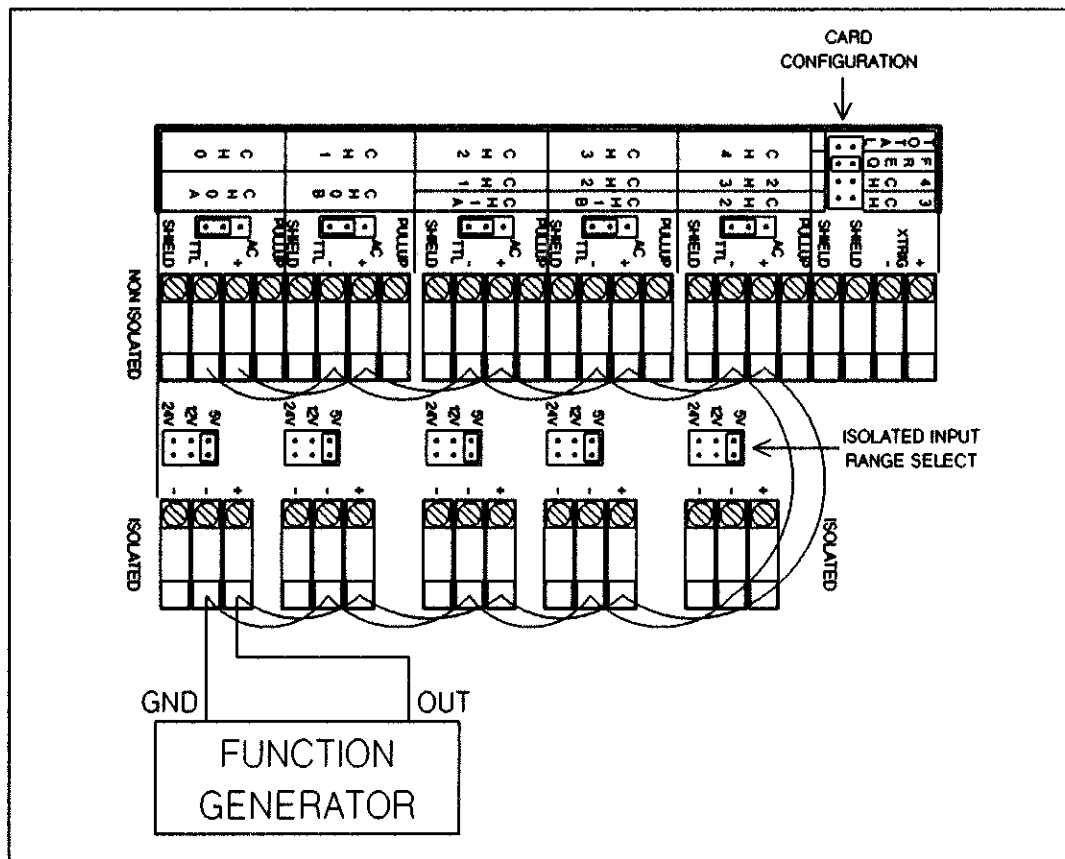

Figure 11-4 Isolated/Non-Isolated TTL Tests
3. Connect the function generator to the shorted "+" and "-" inputs of the Isolated and Non-Isolated channels. The connections are shown in Figure 11-4.
4. Refer to Figure 11-4. Set the Isolated Input range jumpers to 5 V and set the Card Configuration jumper to FREQ.
12. Set the Non-Isolated Input jumpers to TTL, as shown in Figure 11-4.